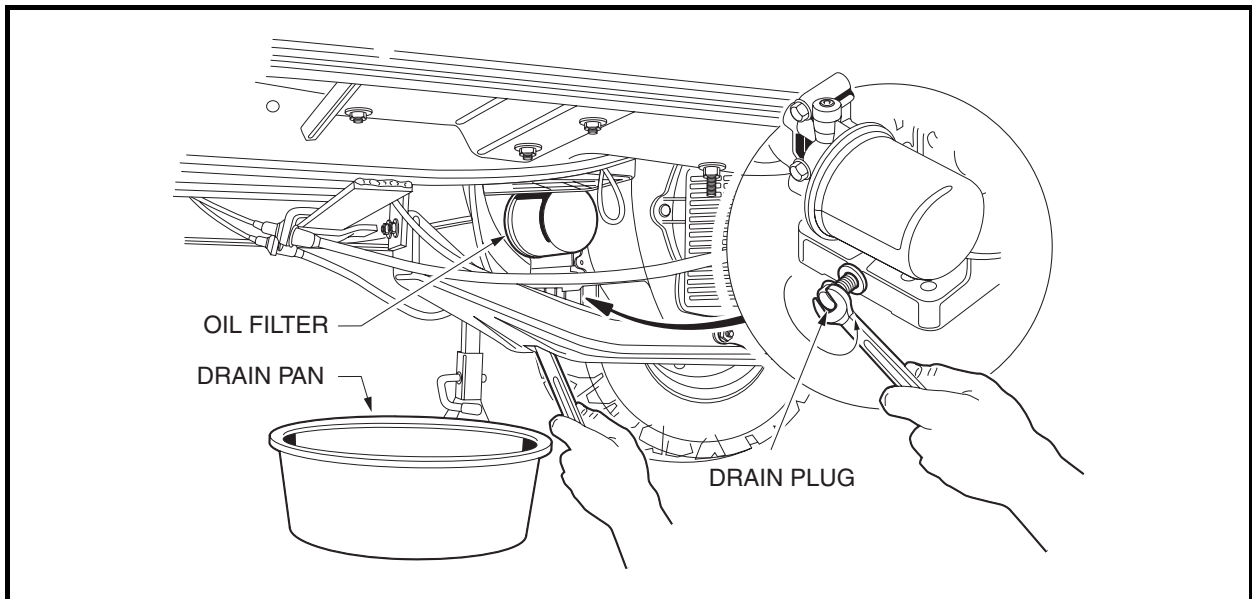

Figure 28 Engine Oil Drain Plug and Pan
4. Position a pan designed for oil changes under the front drain plug (**Figure 28**).
8. Relocate the oil drain pan to a position under the engine oil filter (**Figure 28, Page 43**).
NOTE: An oil drip guard can be used to prevent excess oil from dripping into the engine base plate. Use an empty quart (one liter) container and cut the bottom off at an angle, then slide the open area of the container up and under the oil filter prior to removing. Position the port of the plastic container so oil will be directed into the oil pan (**Figure 28**). Or, make a drip guard by folding a piece of cardboard, thin metal, or plastic under the oil filter forming a channel to direct the filter port oil into the drain pan.